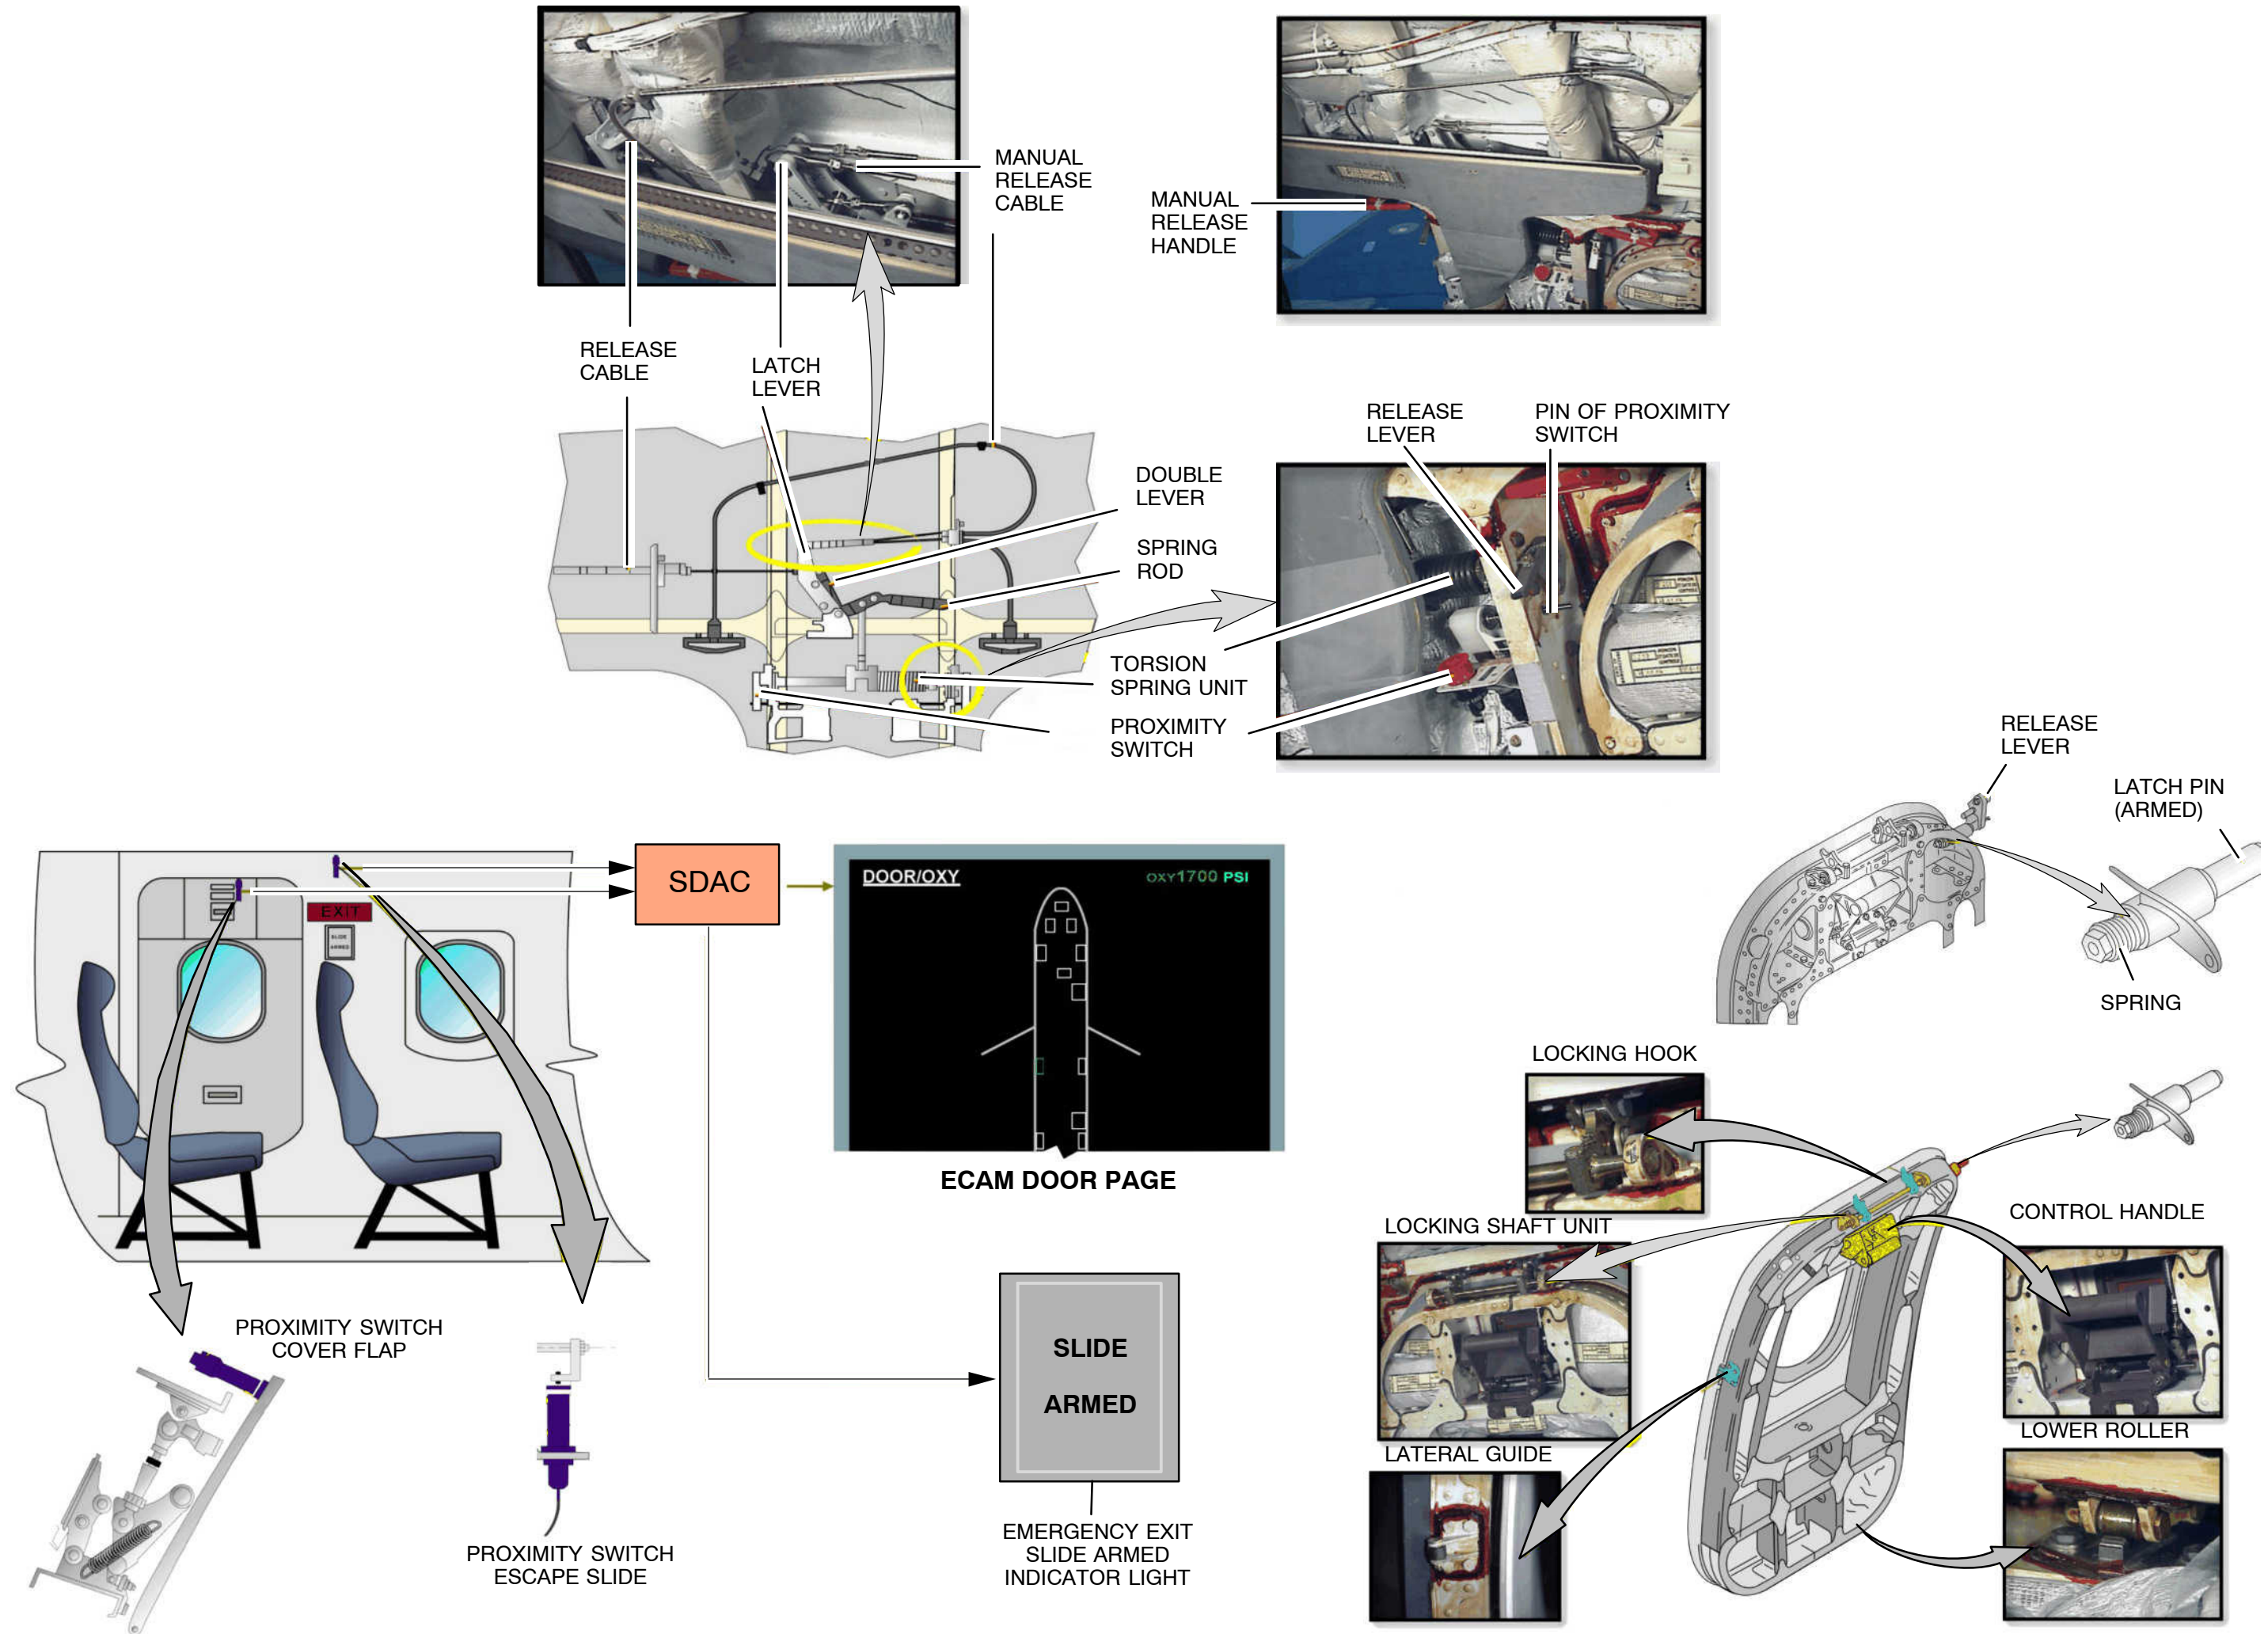

Figure 89 Emergency Exit Schematic Page 178
*Reference to Figure 89 Emergency Exit Schematic*